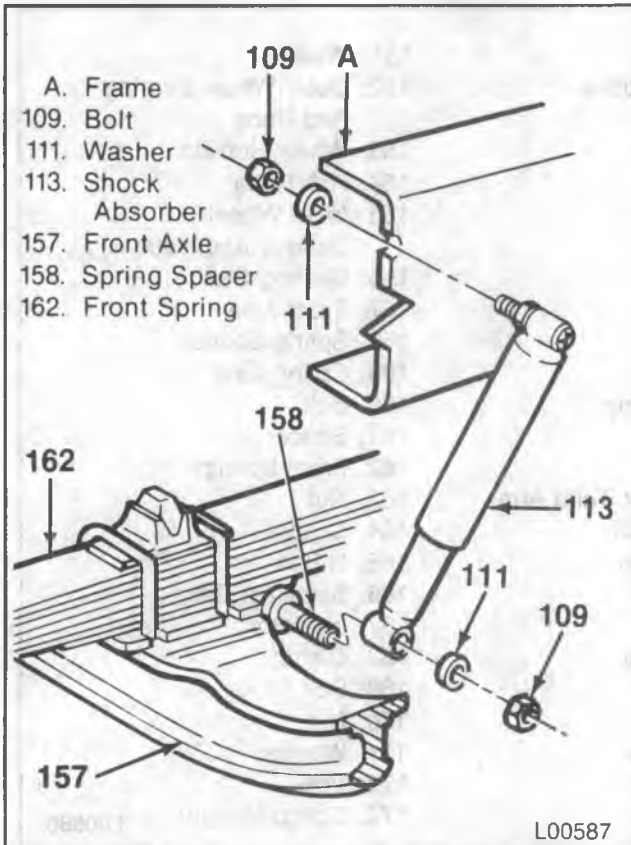

Figure 39 — Shock Absorber Attachment Points
- Shock absorber (113) to the frame (figure 39).
- Washer (111) and nut (109).
- Shock absorber (113) to the leaf spring spacer (158) (figure 39).